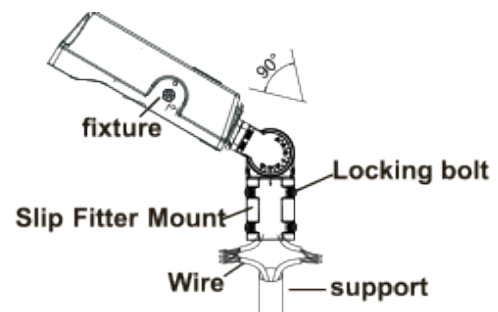

figure 2.4
Step 3: Loosen screws; Adjust fixture angles as per actual demands and tighten screws later; Angles of the fixture are adjustable (pass the bracket through mounting surface, secure it with screws, then connect the wires as per proper wiring requirements). (figure 2.4)